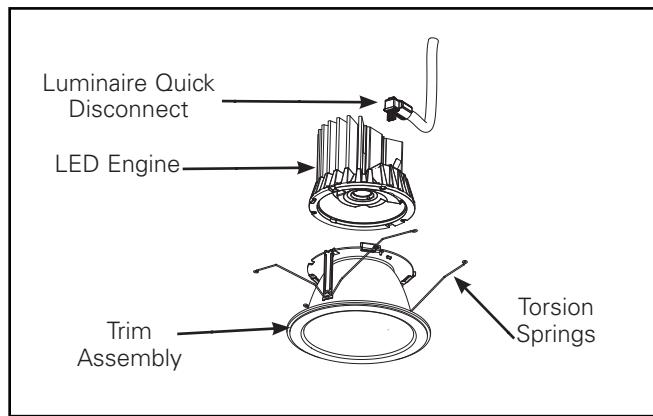

Figure 5
4. Figure 5 & 6 Representing single LED module and Medium Distribution Trim
7. Insert LED engine on to trim assembly. Align post on LED engine with slot on trim assembly (Figure 5.). **Note:** Beam forming modules with optics do not have wet location approval since the lens has to be removed from the trim.